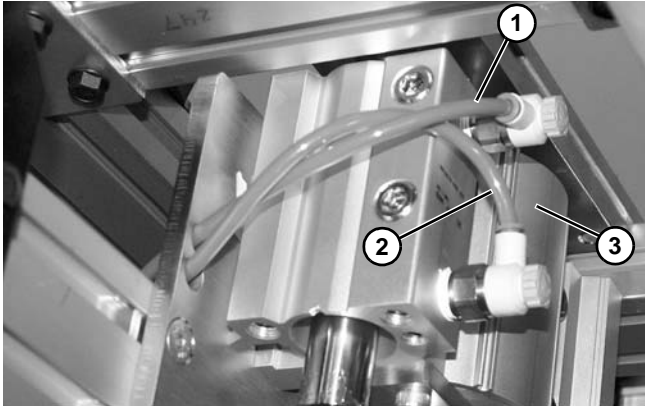

Figure 84
5. Disconnect upper (**Figure 84, item 1**) and lower (**Figure 84, item 2**) hoses from fittings on lift cylinder (**Figure 84, item 3**).